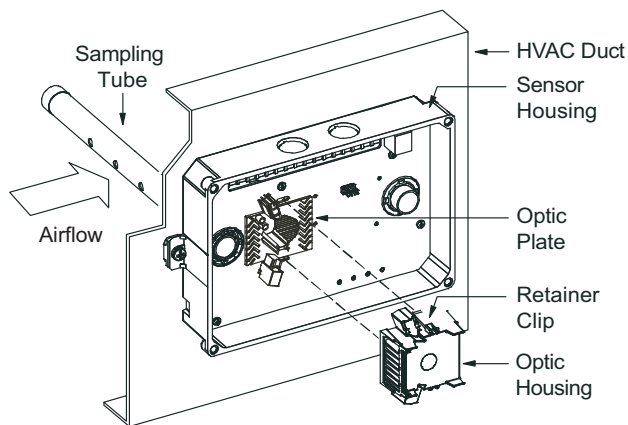

Fig. 56 — Sensor Cleaning Diagram
1. Disconnect power from the duct detector then remove the sensor's cover. See Fig. 56.